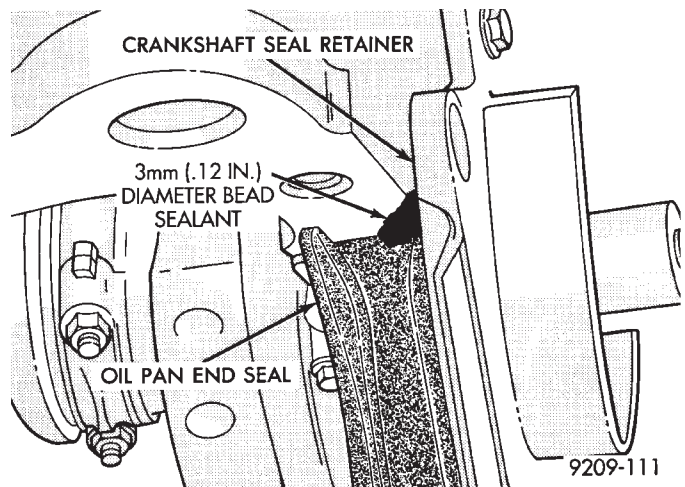

Fig. 3 Sealing, Front and Rear End Seals
(1) Apply Mopar Silicone Rubber Adhesive Sealant or equivalent at the front seal retainer parting line (Fig. 3).
(2) Install the oil pan side gaskets to the block. Use heavy grease or Mopar Silicone Rubber Adhesive Sealant or equivalent to hold in place.
(3) Apply Mopar Silicone Rubber Adhesive Sealant or equivalent to ends of new oil pan end seals at junction of cylinder block pan rail gasket (Fig. 3).
(4) Install pan and tighten screws to 23 N•m (200 in. lbs.).